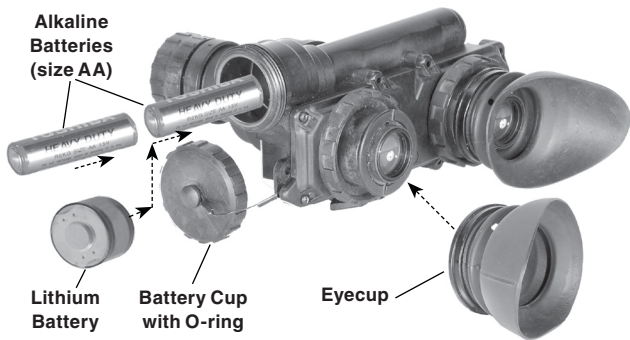

Figure 2-2. Battery and Eye cap Installation
3. Observe polarity, as indicated on the outside of the battery compartment, and insert either two AA, 1.5 Volt batteries or one 3.0 Volt BA-5567/U lithium battery into the battery compartment, plus (+) end first. (See Figure 2-2.)
C. Installation of the Eyecups. Perform the following procedure to install the eyecups onto the PVS-7. Refer to Figure 2-2.